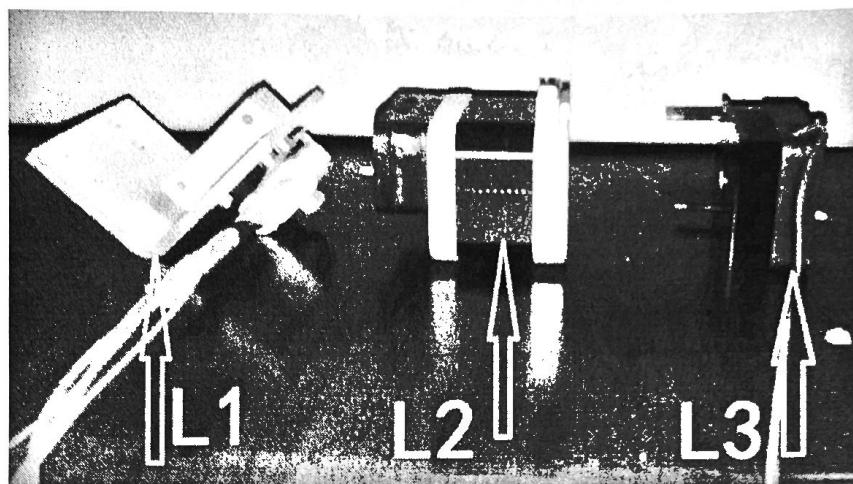
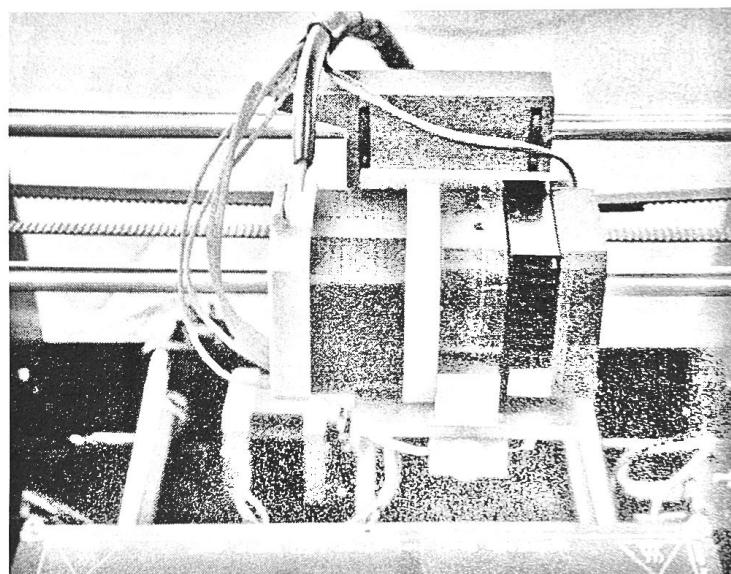

Figure 24
Figure 25
First unscrew cooling fan of nozzle, dismantle the L1, L2 and L3 parts of nozzle as shown in figure 24. **Install L1 part to the movable block in the middle of P assembly** with ⑥, ④ and ③. Please remember that first get screw 6 through the movable block in the middle of P assembly, then install the nozzle in the reverse order that these parts are dismantled, as instructed in figure 25. Connect motor of nozzle to port ~~10~~¹¹ of motherboard with long cable ⑨. Connect cooling fan cable to port ~~14~~^{fan2} of motherboard 14. Connect power cable of nozzle to port ~~3~~⁴ of motherboard. Connect temperature sensor of nozzle to the port 21 of motherboard.